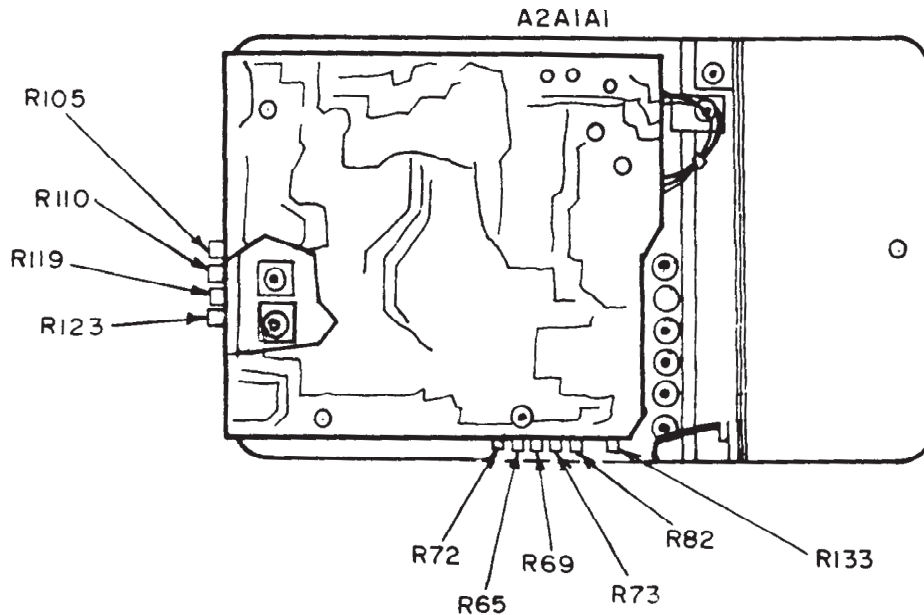

Figure 8. MM-100E Multimeter - Rear View.
³ If out-of-tolerance, adjust calibrator for 10.0000 and adjust A2A1A1R82 (fig. 8) for 10 V indication on multimeter.
¹ If required, readjust A2A1A1R123 (fig. 8) for best in-tolerance indication.
(1) Adjust A2A1A1R65 (fig. 8) for 0 indication on multimeter.
(2) Adjust A2A1A1R73 (fig. 8) for 0 indication on multimeter.
(3) Adjust calibrator output for a 1.00000 indication. Adjust A2A1A1R69 (fig. 8) for a 1V indication on TI multimeter.
(4) Adjust A2A1A1R119 (fig. 8) for ∞ (infinity) on TI multimeter.
(5) Set resistance standard to 30 Ω . Adjust A2A1A1R123 (fig. 8) for 30 Ω indication on TI multimeter.
(6) Adjust calibrator output for a 1 V indication. Adjust A2A1A1R72 (fig. 8) for a 1 V indication on TI multimeter.
(7) Adjust A2A1A1R110 (fig. 8) for 6 dB indication on **SINAD** scale.
(8) Adjust **1 kHz** control until audio analyzer indicates 10 percent distortion.
(9) Adjust A2A1A1R105 (fig. 8) for 10 percent indication on TI multimeter.
(10) Adjust A2A1A1R133 (fig. 8) for 60 percent indication on TI multimeter.